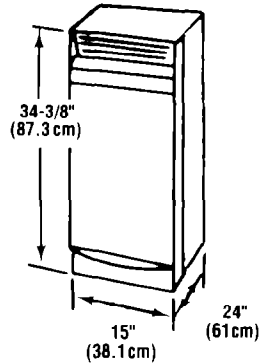

FIGURE 2
2. The compactor's overall dimensions are: Height 34-3/8" (87.3cm), Depth 24" (61cm), Width 15" (38.1cm). See Figure 2.